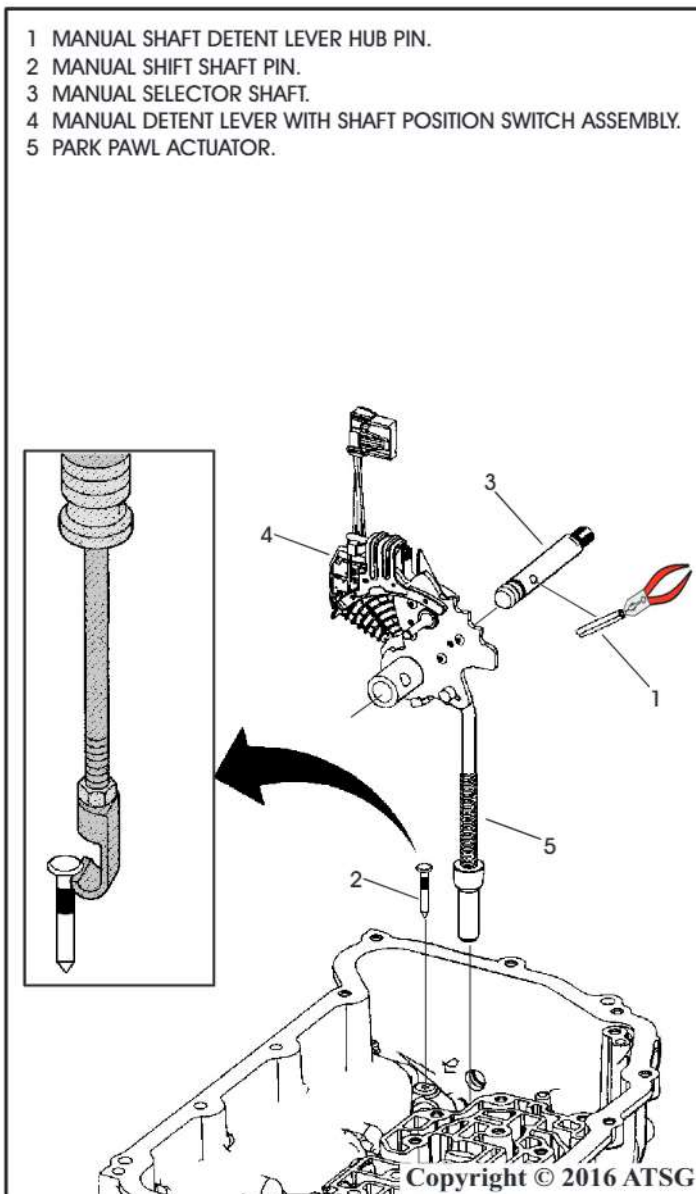

Figure 64
52. Remove manual shaft detent lever hub pin , Refer to Figure 64, with side cutters and discard.
53. Remove manual shift shaft pin using a mini slide hammer with seal remover installed. Gently tap upwards until pin is out as seen in Figure 64 and discard if bent.
54. Remove manual selector shaft as shown in Figure 64.
55. Remove manual detent lever/shaft position switch with park pawl actuator assembly as shown in Figure 64.